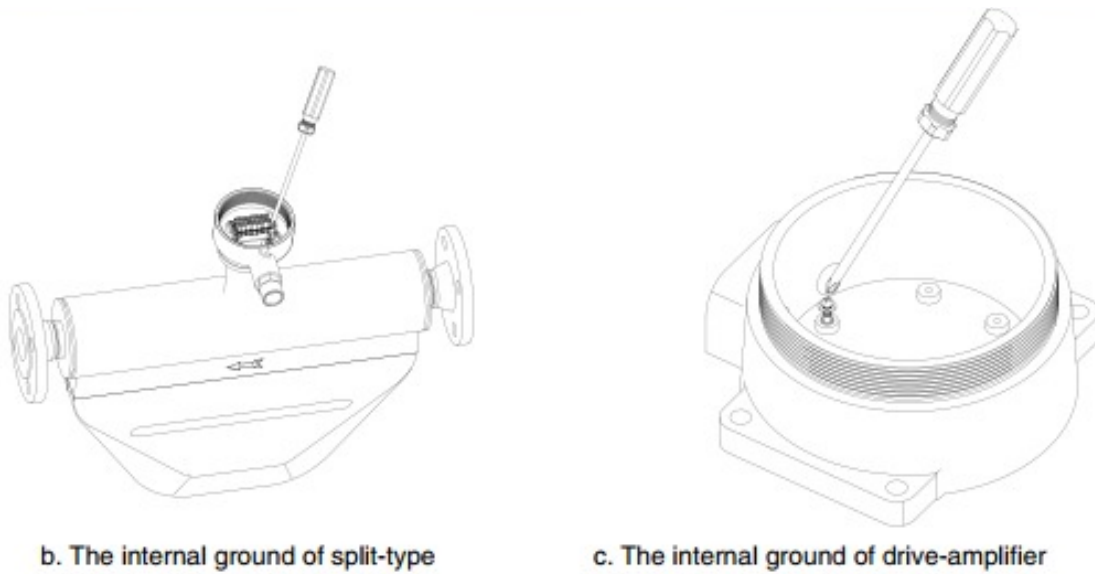

Fig. 4.12 Internal grounding
- The ground wire is as short as possible, impedance is less than 1Ω. The cross-sectional area of the internal ground wire must be greater or equal to the power cable. Internal grounding reference identification operation as show in figure 4.12.
In figure 4.12 a, for transmitter had used a wire (cross-sectional area 2.5mm2) connected the internal ground screw to the pin 'FG' of power terminal, and user just need to tighten the ground wire of three-core power cable to the power terminal as figure 4.11. In figure 4.12 b, twist the shielded wire of the nine-core wire and connected it to the internal grounding insert. And in figure 4.12 c, use one of the three-core power cable as a ground wire connected to the insert.